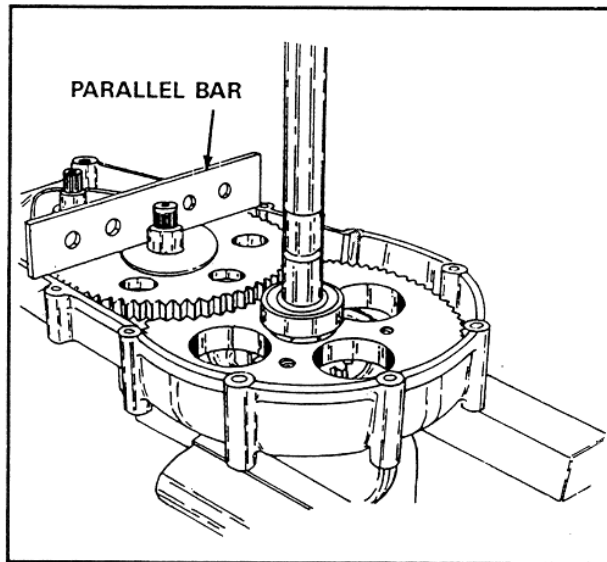

FIGURE 19
- 8.08 Use a parallel bar across housing. See figure 19.
- 8.09 With a feeler gage, depth micrometer, or calipers measure the distance between the parallel bar and the reduction gear face. See figure 19.